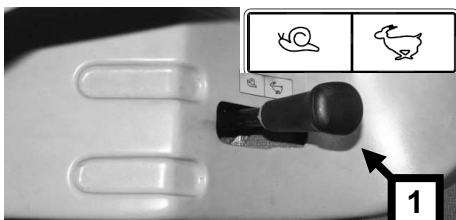

Figure 5-5 Reducer lever "tortoise – hare".
- set reducer lever 1 (Figure 5-5) as required in setting: